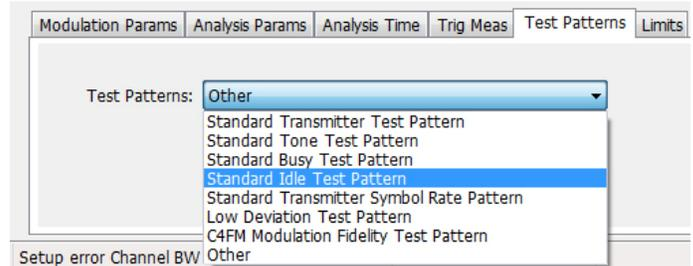
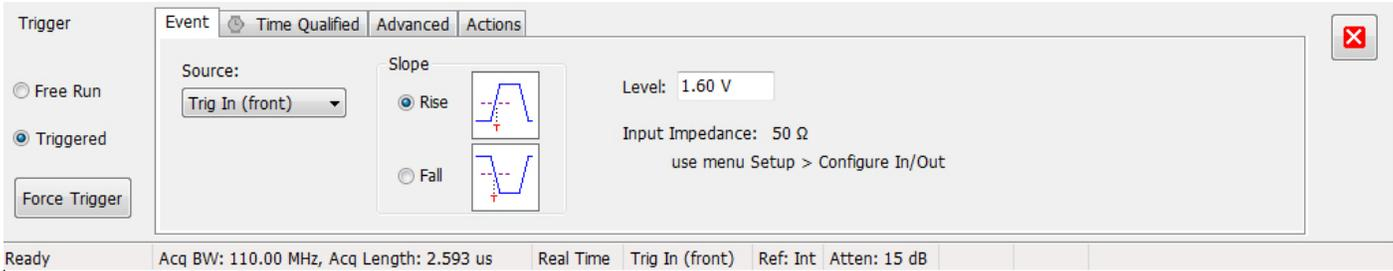
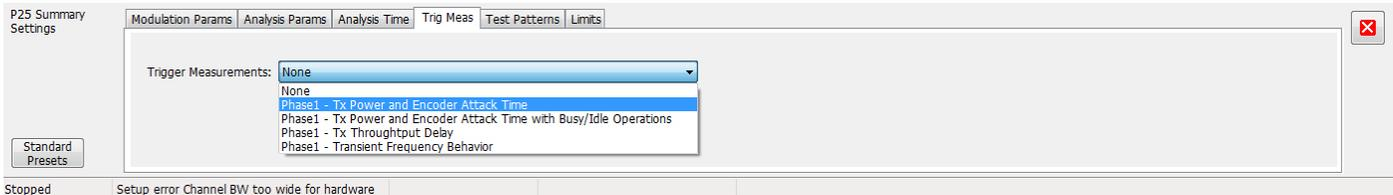

Figure 11. Selection of Test Patterns.
Figure 15. Operating Tektronix RSA5000 in triggered mode.
Figure 16. Selection of triggered measurements in the P25 Summary control panel.
- **How-to:** The users should bring up the P25 Summary settings panel. In this panel, the users should verify no trigger measurement have been selected (under the Trig. Meas tab). Please refer to Figure 16. The users need to select "none". They also need to select the correct test pattern that is modulating the DUT before pressing Run (either Low or High Deviation). This test pattern is selected under the Test Patterns tab of the P25 Summary settings panel as shown in Figure 11.
- **How-to:** The user should bring up the P25 Summary settings panel. In this panel, the user should verify no Trigger Measurement have been selected (under the Trig. Meas. tab); They also need to select the correct test pattern that is modulating the DUT under the Test Patterns tab (either the standard transmitter symbol rate pattern for Phase 1 or the standard transmitter high deviation test pattern (inbound or outbound) for Phase 2 associated with the modulation of the DUT) before pressing Run. Please refer to Figure 11.
■ **How-to:** The Spectrum Analyzer needs to be set in triggered mode. This is done under the Trigger menu on Tektronix RSA5000 as shown in Figure 15. Then the P25 Summary settings panel needs to have that particular triggered measurement setup as shown in Figure 16. Per the standard, this measurement needs to be performed 10 times by the user; the actual result reported in P25 Summary is the average of all the times measured over a maximum of 10 iterations. After 10 iterations, the number reported is the average of the last 10 iterations. The user needs to select enough acquisition length (please use the Acquisition control panel) to ensure that sufficient data is available when the acquisition is triggered.
- **How-to:** The throughput delay measurement has to be selected under Trig Meas in the P25 Summary control panel in similar fashion as shown in Figure 16. This measurement needs to be performed 10 times by the user. The Level set